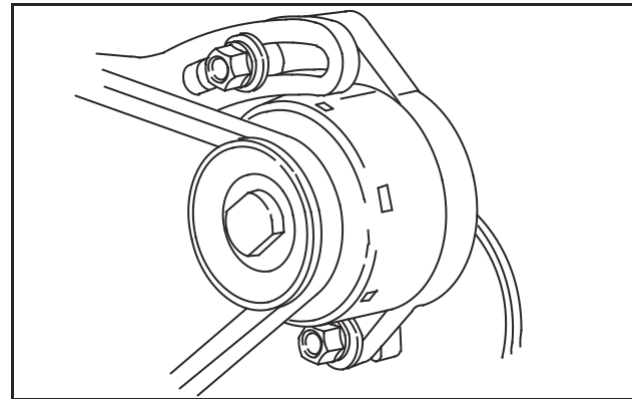

Fig. 11 – 14 Amp Alternator
1. The belt driven permanent magnet alternator produces AC voltage, Fig. 11. AC output will vary with engine RPM, from approximately 7 volts AC at 1000 RPM to 32 volts AC at 3000 RPM.